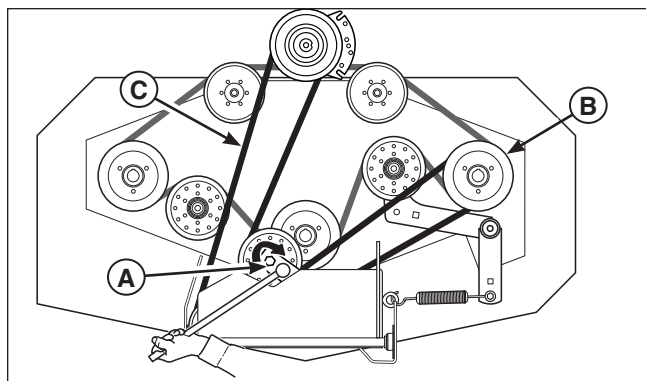
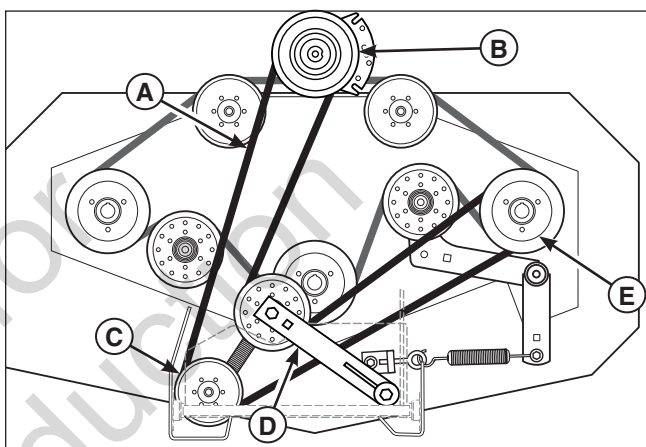

Figure 42. Removing the PTO Drive Belt
Figure 43. PTO Drive Belt Routing
4. Using a 1/2" breaker bar, place the square end in the square hole located in the end of the idler arm (A, Figure 42). Carefully rotate the breaker bar CLOCKWISE, which will relieve the tension on the belt exerted from the idler arm.
5. Slide the PTO drive belt over the edge of the left spindle pulley (B). Carefully release the tension on the breaker bar.
7. Install the PTO drive belt (A, Figure 43) on the PTO clutch pulley (B), the front idler pulley (C) and the idler arm pulley (D). Carefully rotate the breaker bar CLOCKWISE and install the belt on the left spindle pulley (E). Carefully release the tension on the breaker bar.